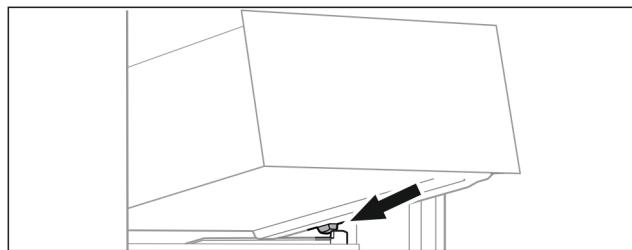

Fig. 64
- Place drawer at an angle behind the stoppers on the moulded rib. (see Fig. 64)